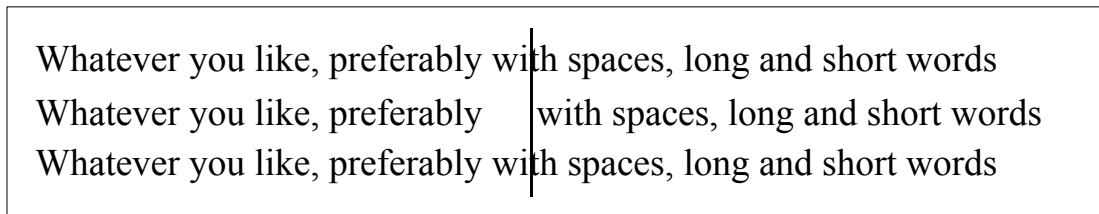
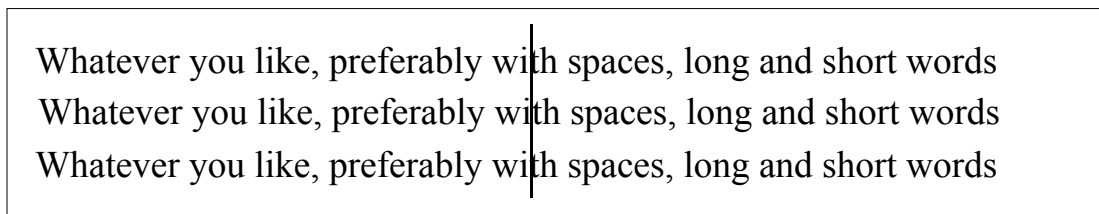

Figure 1 With `FlushGrafPortState`
Figure 2 Without `FlushGrafPortState`
The PostScript LaserWriter driver substitutes Times for New York. But New York (on the screen) is larger than Times, and the driver distributes the line layout error among the word spacings and, to a much lesser extent, among the intercharacter spacing. Note that the beginning of the `testString2` ("with spaces, ...") is slightly moved to the left in lines 1 and 3. The LaserWriter driver heuristically concludes that `testString1` and `testString2` belong to the same line, and applies the distribution of the line layout error to the concatenated string. It appears that the driver deliberately ignores the `MoveTo(x0+w, y)` instruction; figure 2 demonstrates this quite clearly in the second line, where the `LineLayoutOff` picture comment has been issued. `LineLayoutOff` does **not** disable the driver's attempt to collect the arguments of separate text drawing instructions into one logically coherent piece of text. This behavior is necessary to assure that indices or exponents in the text appear at the right horizontal position. Figure 1 shows that `FlushGrafPortState` after a `MoveTo` always guarantees precise text placement.
where indicated by `{... (2) ... }`, and remove the call to `FlushGrafPortState`, we will obtain the same output as in Figure 1. In other words, these picture comments are what you need to turn the LaserWriter driver's line layout behavior off, and completely so!